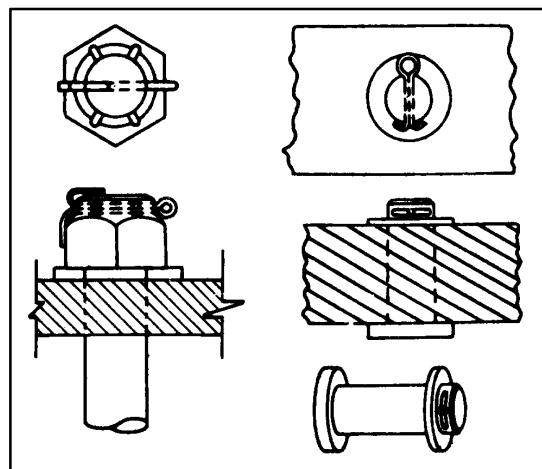

FIGURE 7-6. Securing with cotter pins.
**NOTE: In using the method of cotter pin safetying, as shown in figures 7-6 and 7-7, ensure the prong, bent over the bolt, is seated firmly against the bolt shank, and does not exceed bolt diameter. Also, when the prong is bent over the nut, ensure the bent prong is down and firmly flat against the nut and does not contact the surface of the washer.**